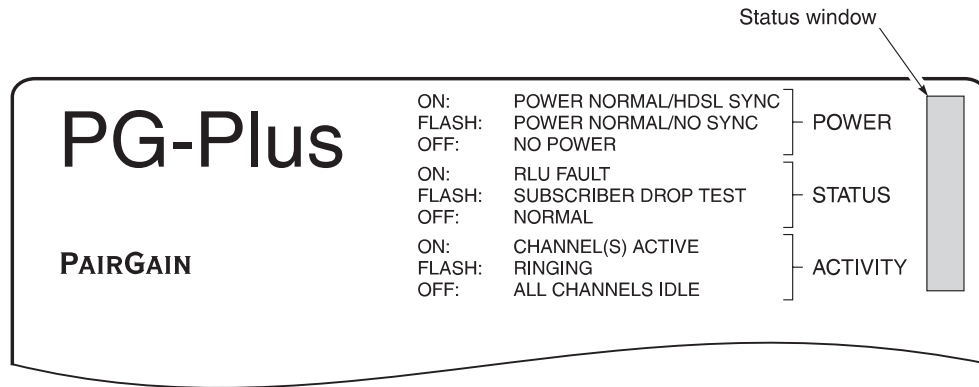

Figure 11. PRL-770 Status Window
- 8.1** The circuit board metal enclosure has a System Status window through which Status LEDs may be viewed. The Status LEDs indicate different system states such as status of power, and subscriber line activity including on-hook, off-hook, ringing, and subscriber drop test activity. The top portion of the PRL-770 reference label provides a guide to what the Status LEDs indicate (Figure 11).